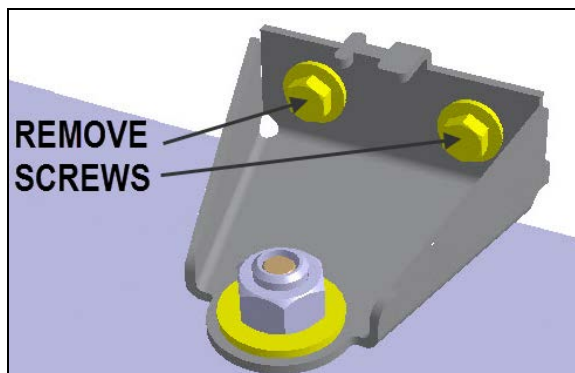

Fig.10
6. Remove the bracket from the vehicle by unscrewing the two M8 hex bolts (13mm or 1/20 head) securing it to the frame (Fig.10).